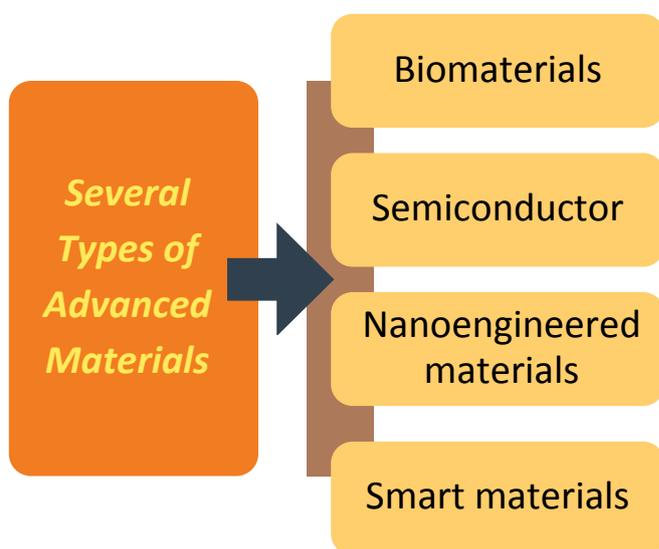

Figure 1.3 : Advanced materials
- Another classification is advanced materials, those used in high-tech applications, **semiconductors, biomaterials, smart materials, and nanoengineered materials** as shown in **Figure 1.3**.